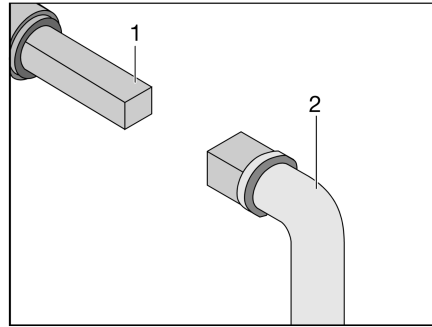

Fig. 372 Operation of the waste water tap
- Place key (Fig. 372,2) onto the square bolt (Fig. 372,1).